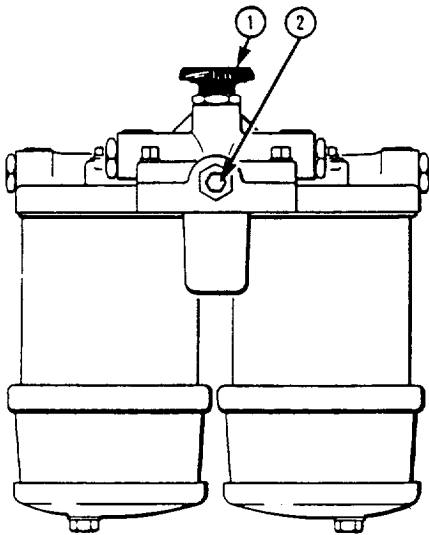

Fig. 9 (c)
- Key to Fig. 9(c) TV8.510 (M)